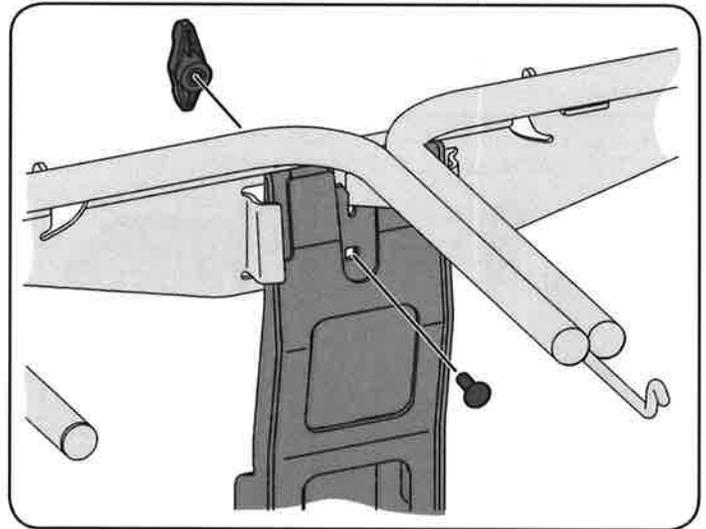

Figure 11
7. Install the hanger assembly onto the upright support bracket using a carriage bolt (710-0276) and wing knob (720-04122) from hardware pack 689-00328A. See Figure 11.